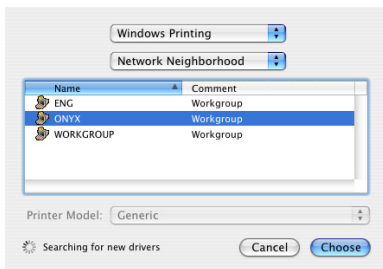

Figure 7—Windows Printing
7. Select the **Domain** or **Workgroup** of which the ONYX RIP machine is a member (see Figure 7).